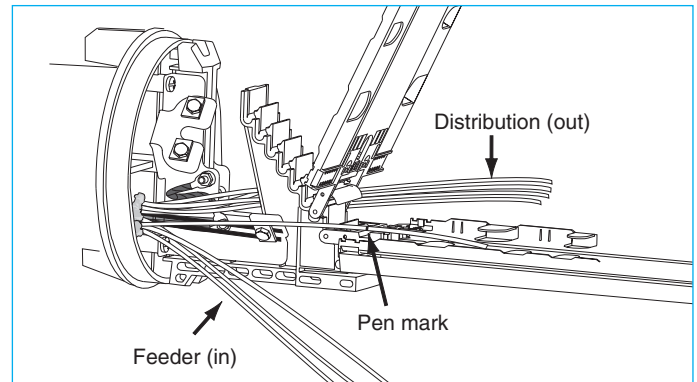

Figure 34.
10.1.2 Remove the tray cover and route the “feeder” (in) and “distribution” (out) tubes to the appropriate side of the tray. (Figure 34)
10.1.3 Place a pen mark on each tube 1/4” beyond the tie-down slots. Use a buffer tube cutter to cut each tube at the mark, and remove the excess tube from each fiber group. (Figure 34)